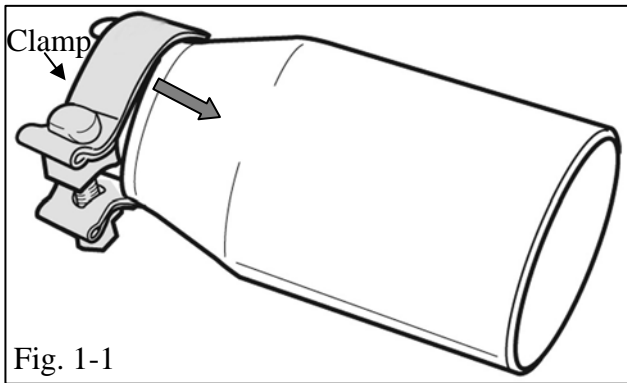

Fig. 1-1
- (c) Slide the Stainless Steel clamp over the stainless steel exhaust tip inlet as shown. (Fig 1-1)